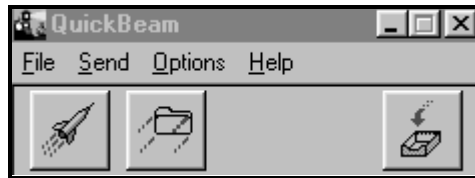

Figure 84: The QuickBeam Window
- Click on the desired file, and drag it onto the rocket button in the QuickBeam window, as shown in Figure 84 below.